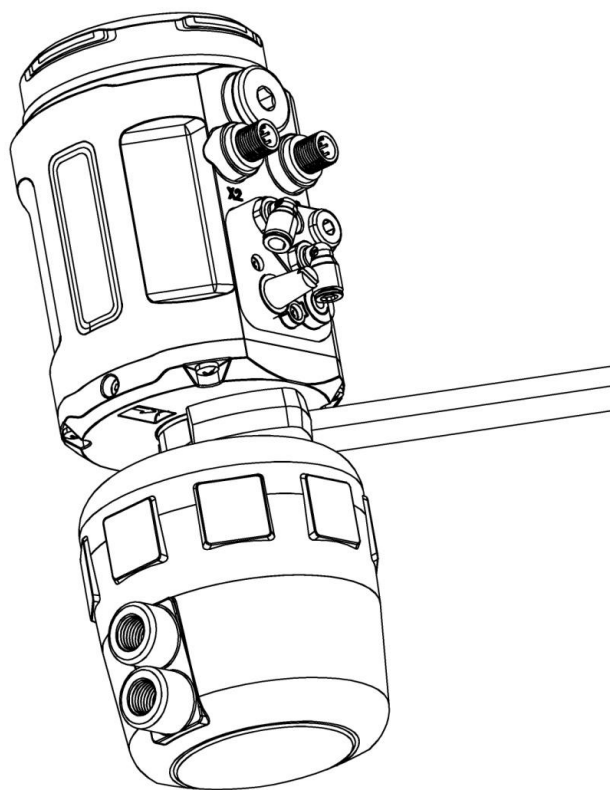

Figure 7. Actuator Combination
4. Raise the internal valve stem of the actuator to the highest position. Make the actuator connection of the positioner entering into the thread connection of the actuator by **NO.32 wrench**. As shown in Figure 7.
If you need to adjust the interface angle, relax the hexagon screw in place A (As shown in Figure 7) first. Then adjust the angle clockwise or counter- clockwise in 180°range. After adjusting the angle, lock the angle by the hexagon screw.